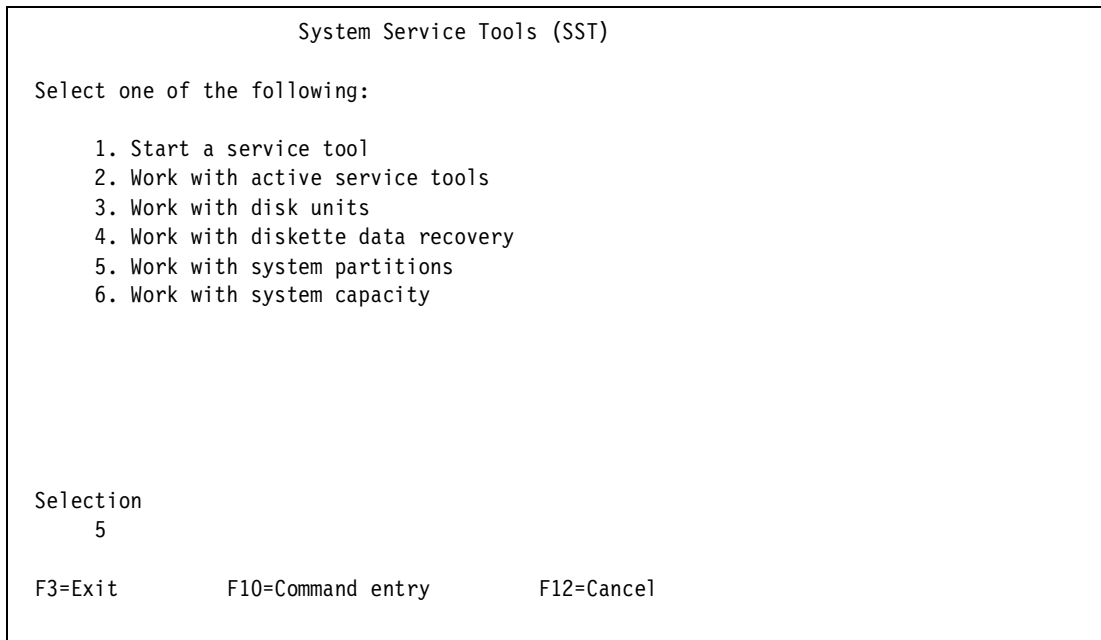

Figure 4-28 System Service Tools
3. Once you are in SST, select option 5 (Work with system partitions) as shown in Figure 4-28.